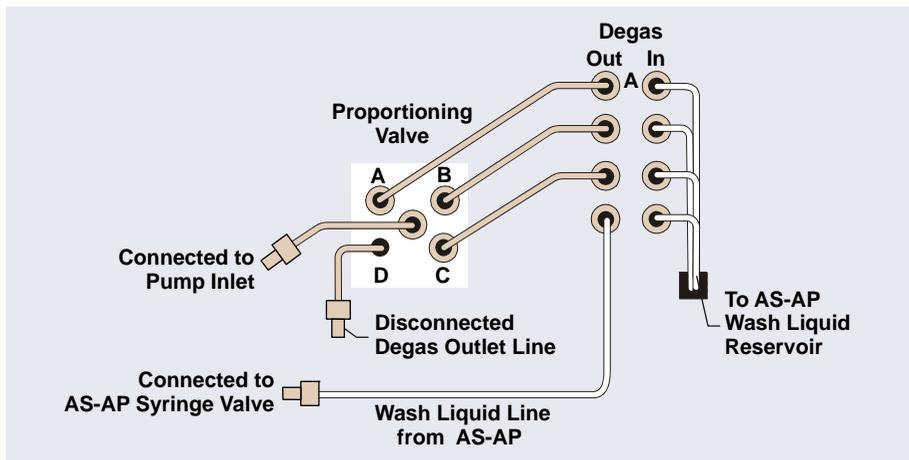

Figure B-16. Connections for Online Degassing Using an Unused Pump Degas Channel (Example Using Degas Channel D Shown)
1. In the pump, disconnect the outlet line from the degas out port of the unused degas channel. See the example in Figure B-16.